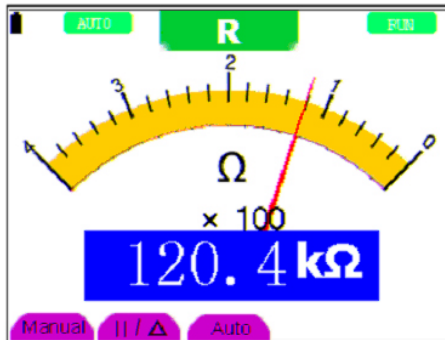

Figure 34.- Measure resistance.
3. Connect the red and black test leads to the resistor. The resistor value readings are shown on the screen in Ohm. Now, you can see a screen that looks like the following figure 34.